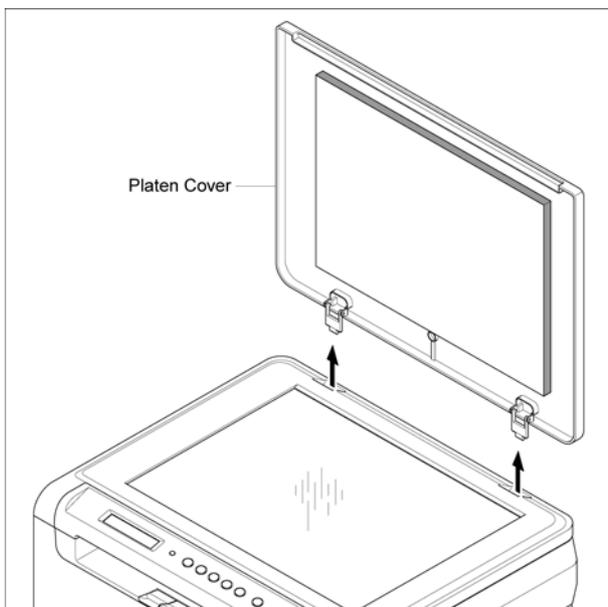

Figure 1
1. Lift the Platen Cover upwards and remove the Platen Cover, Figure 1.